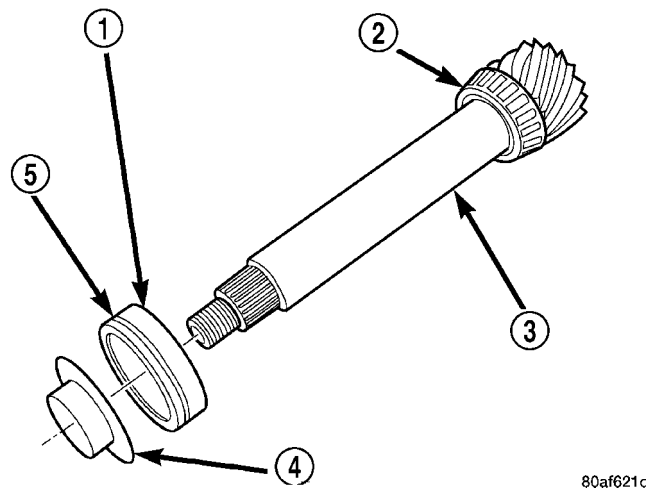

Fig. 61 Bearing Cup Removed
(45) Slip bearing cup retainer and oil baffle off of shaft (Fig. 61).